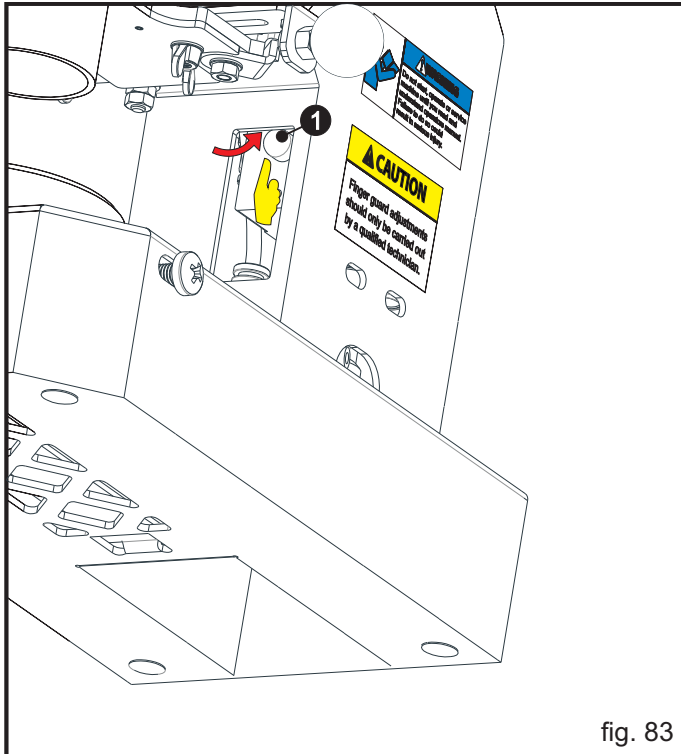

fig. 83
Push the valve into the machine body in the arrow direction by pressing the pin① on it as shown in the (fig. 83).
**Note:** This pin① has a built-in spring. While you are pushing it into the machine, you need to press this pin①.